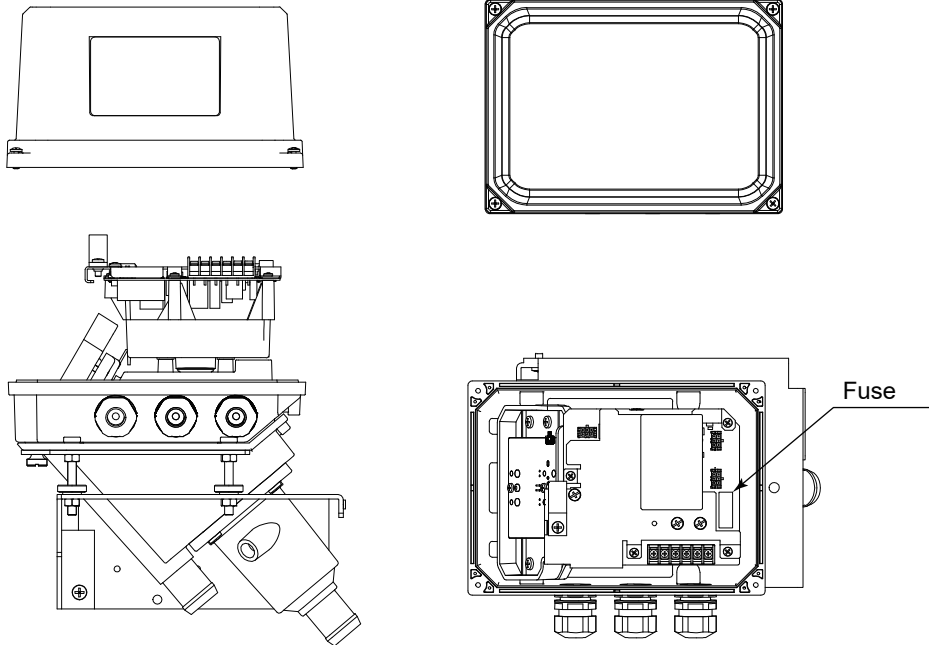

Figure 8.10 Fuse replacement
- (1) Loosen the four (4) setscrews to open the detector top cover.
- (2) Take out the fuse. (Figure 8.10).
- (3) Replace the fuse with a new one.
- (4) Put the top cover back in place.